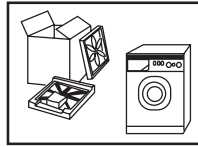
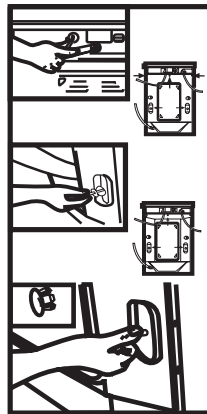

Fig.1
Fig.2
- As shown in figure 1 remove all the packing materials(including the foam base).
- Remove the packing screws as shown in figure 2.
<p>3. Clean the detergent compartment regularly. For the detergent compartment similar to figure (a), raise the compartment slightly to remove and replace after cleaning.</p>  <p>Fig.(a)</p>	<p>4. Cleaning the Filter (once a month). Press the lower edge of the filter compartment Cover to open; (Tig.1-2); Remove the filter by Turning counterclockwise; (Tig.3); Flash clean with running water; Filter replacement is the reverse of removal. Caution: Attention shall be paid to ensure that the filter is replaced correctly to avoid possible leakage.</p>  <p>Fig. 1 Fig. 2 Fig. 3</p>